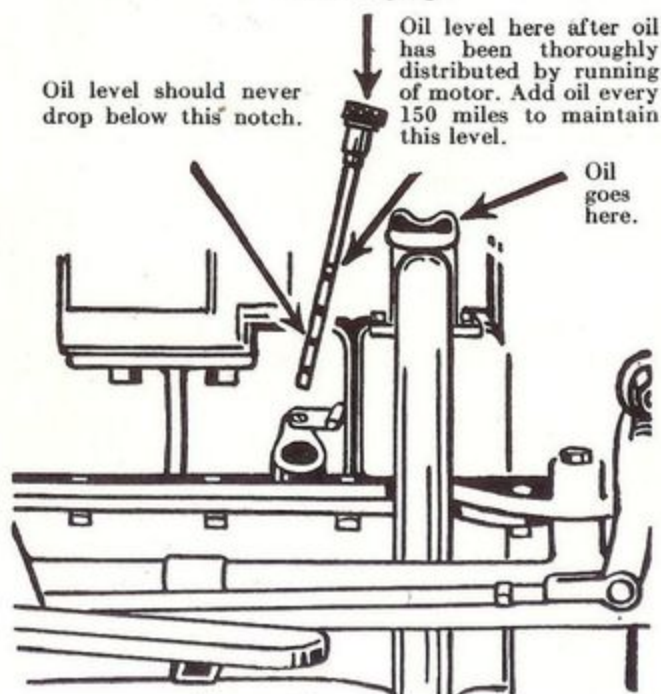

Figure 5
**Model 436**—Remove large drain plug from underneath the crankcase, also small plugs from underneath the flywheel housing and transmission case, allow all the oil to drain off, then replace all three drain plugs. Through filler cap (shown in Fig. 5) on left side of motor, pour enough oil into the crankcase to bring the level up to the *fourth* notch on the oil gauge. This will require about three quarts. It is necessary that the motor be run for a short time before the oil finds an equal level in the crankcase and flywheel housing.